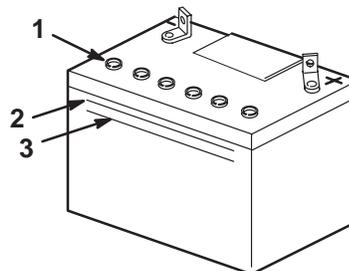

Figure 26
- Look at the side of the battery. The electrolyte must be up to the Upper line (Fig. 26).
Important Do not allow the electrolyte to fall below the Lower line (Fig. 26).
- Remove the vent caps from the battery (Fig. 26).
- Slowly pour distilled water into each battery cell until the electrolyte level is up to the Upper line (Fig. 26) on the battery case.
- Wait 5 to 10 minutes after filling the battery cells. Add distilled water, if necessary, until the electrolyte level is up to the Upper line (Fig. 26) on the battery case.